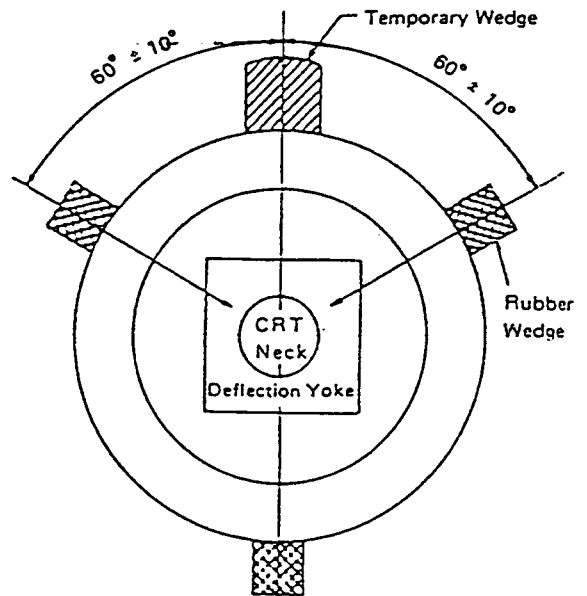

Fig. 14
#### 4.15 Precise Adjustment of Dynamic Convergence (See Figs. 14 and 15)
4. Insert three rubber wedges to the position as shown in Fig. 14 to obtain the best circumference convergence.
- 4) The angle of each rubber wedge is shown in Fig. 14.